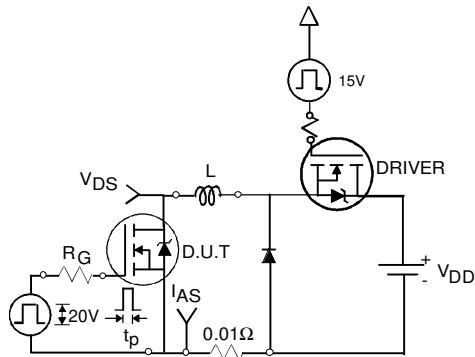

Fig 12a. Unclamped Inductive Test Circuit
3. Equation below based on circuit and waveforms shown in Figures 12a, 12b.
- ④ Pulse width $\leq 400\mu\text{s}$; duty cycle $\leq 2\%$.
⑤ C_{oss} eff. is a fixed capacitance that gives the same charging time as C_{oss} while V_{DS} is rising from 0 to 80% V_{DSS} .
⑥ Calculated continuous current based on maximum allowable junction temperature. Package limitation current is 75A.
⑦ Limited by T_{Jmax} , see Fig.12a, 12b, 15, 16 for typical repetitive avalanche performance.